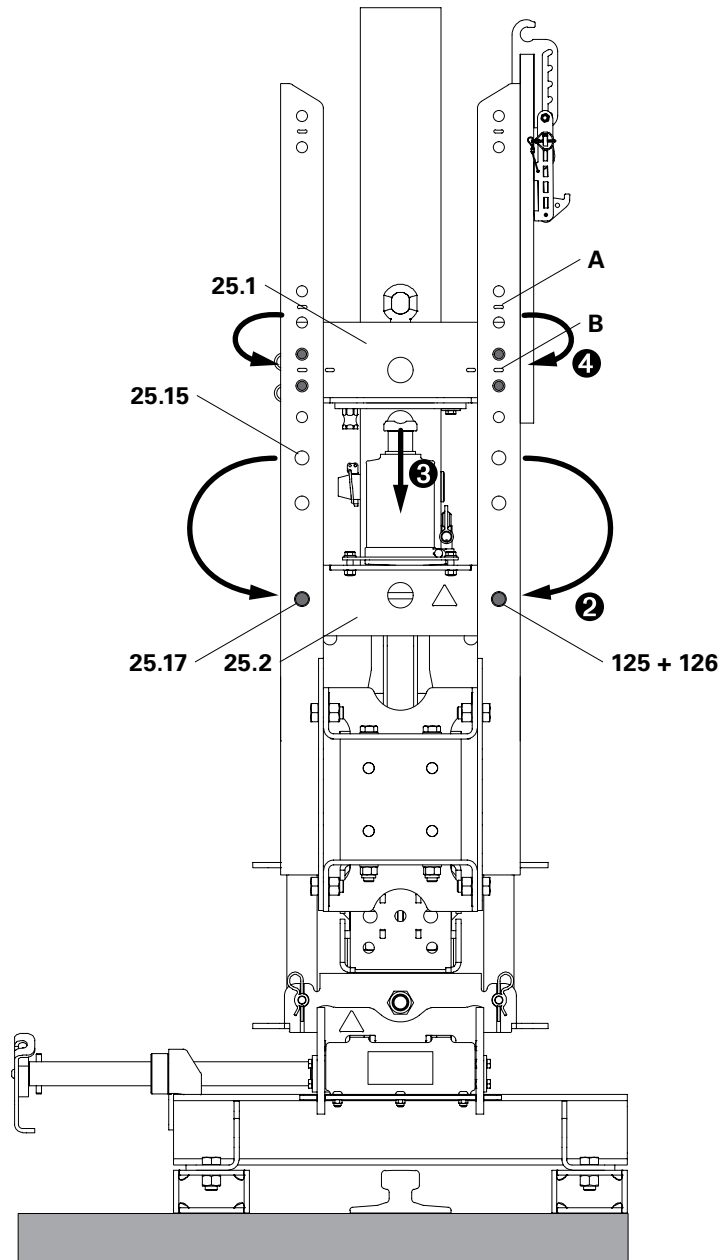

Fig. D2.13
2. Insert Cross Beam (25.2) at the moving position (25.17) in the Lift Frame using fitting pins \varnothing 26 mm (125) and cotter pins 5/1 (126).
4. Remove Main Beam (25.1) from the top position (A) of the Lift Frame and install in the bottom position (B) or intermediate position.
5. Carefully raise the Hydraulic Jack until the fitting pins (125) are free of load in the Cross Beam (25.2).
6. Remove fitting pins \varnothing 26 mm (125) from the Cross Beam and insert in the parking position (25.15) with cotter pins 5/1 (126).
7. Continue the lifting procedure. (Fig. D2.13)